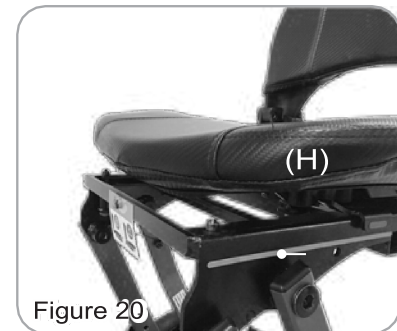

Figure 20
- Do not get on the scooter if the seat is positioned in red point (H). Get on the scooter only if the seat is locked in its green point position (Figure 20).